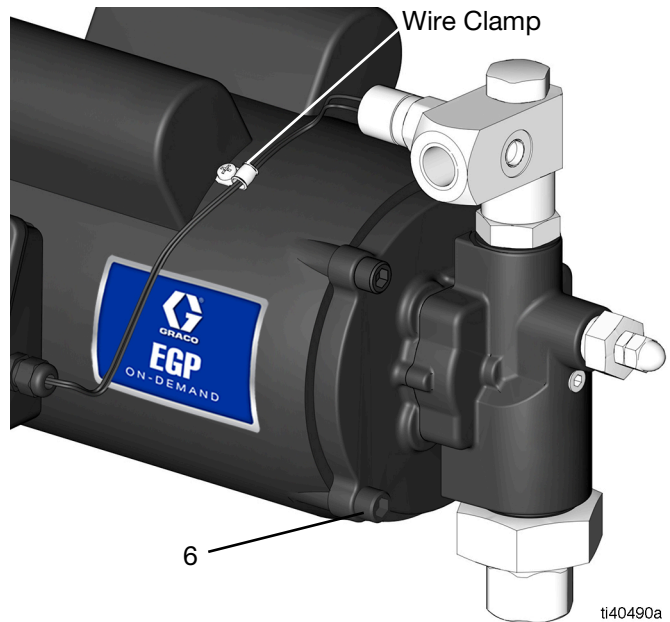

FIG. 17
12. Pull the pressure switch wire out of the wire clamp (FIG. 17).
13. Remove the four Allen screws (6) using an 5/16 in. (8 mm) hex wrench (FIG. 17).
2. Place and tighten the four Allen screws (6) using an 5/16 in. (8 mm) hex wrench (Torque 20 ft-lbs, 27.1 N•m) (FIG. 17).